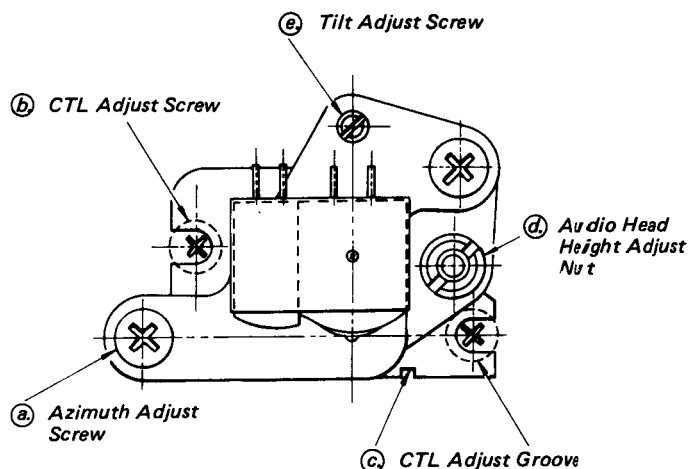
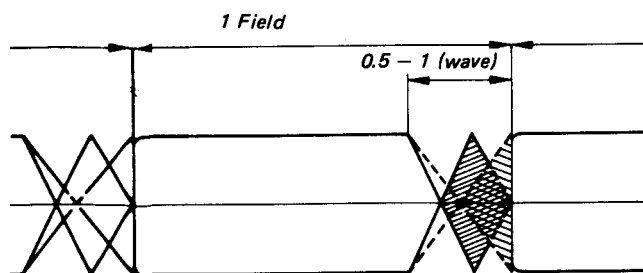

Fig. 5-124 Adjustment Screws of Audio Control Head Assembly
Fig. 5-125 Exit Side Envelope Wave-form
- c. Adjust the tilt adjustment screw ⑤ as shown in Fig. 5-124 to obtain the envelope as shown in Fig. 5-125.
- d. After adjusted tilt adjustment screw ⑤, needed the exit guide adjustment as shown in Section 34-2 step 5-b.
1. When turning the tilt adjustment screw ⑤ clockwise, the tape transportation should be down.
3. Adjust to obtain the maximum audio level by rotation the audio azimuth adjustment screw (see Figs. 5-124, 5-127).